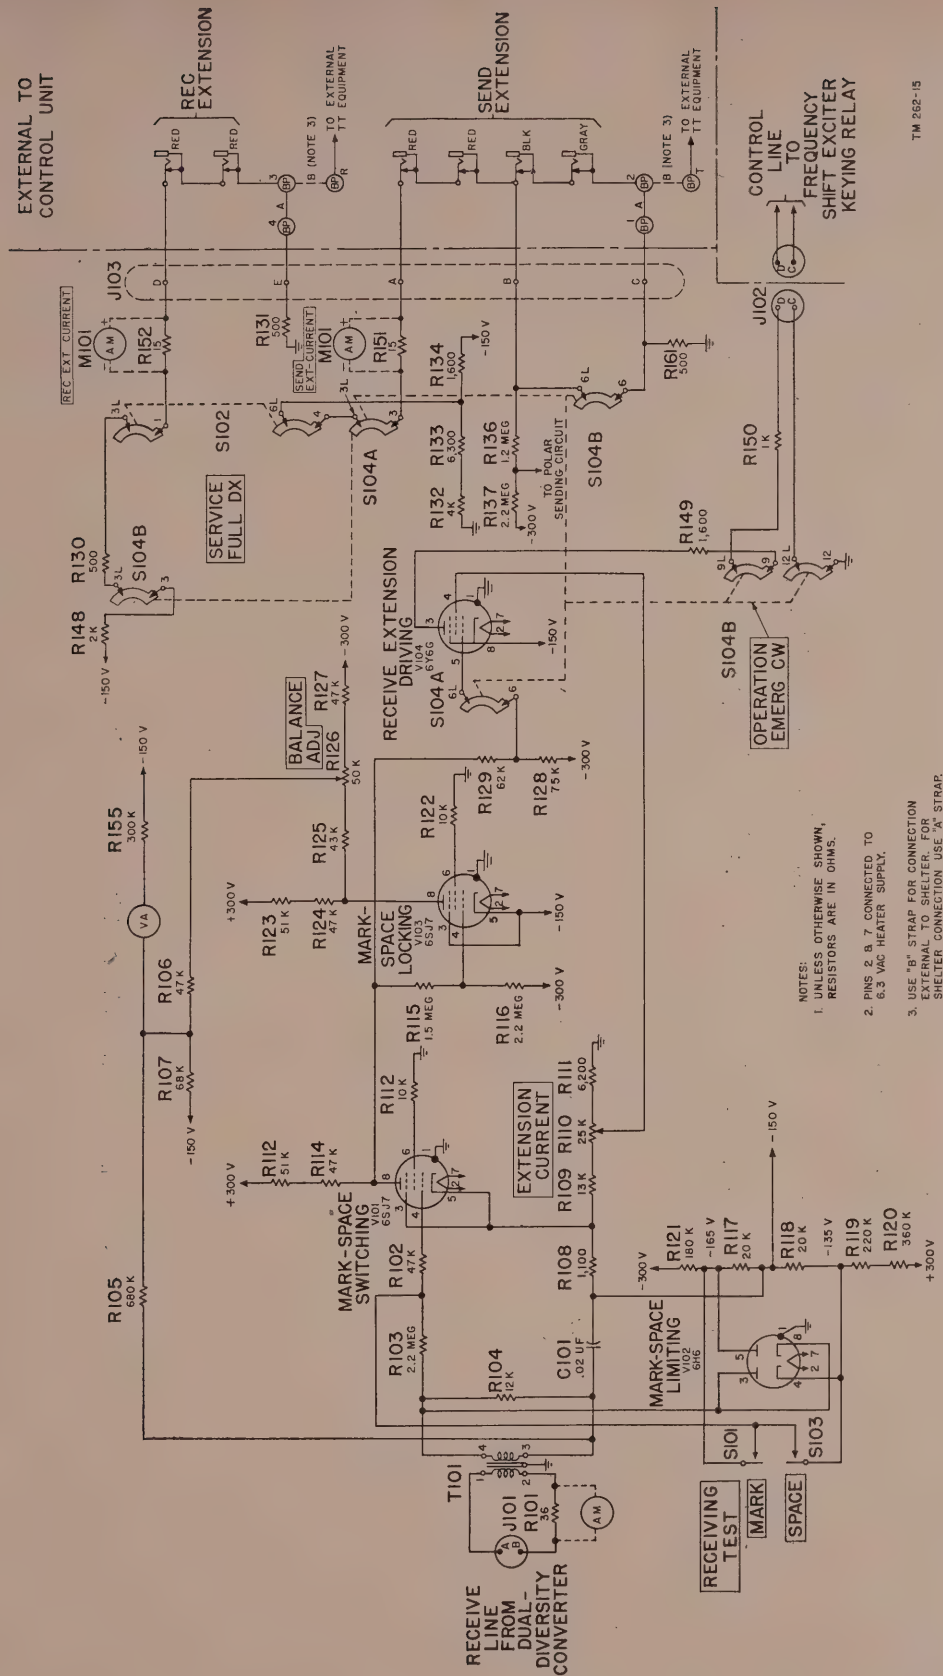
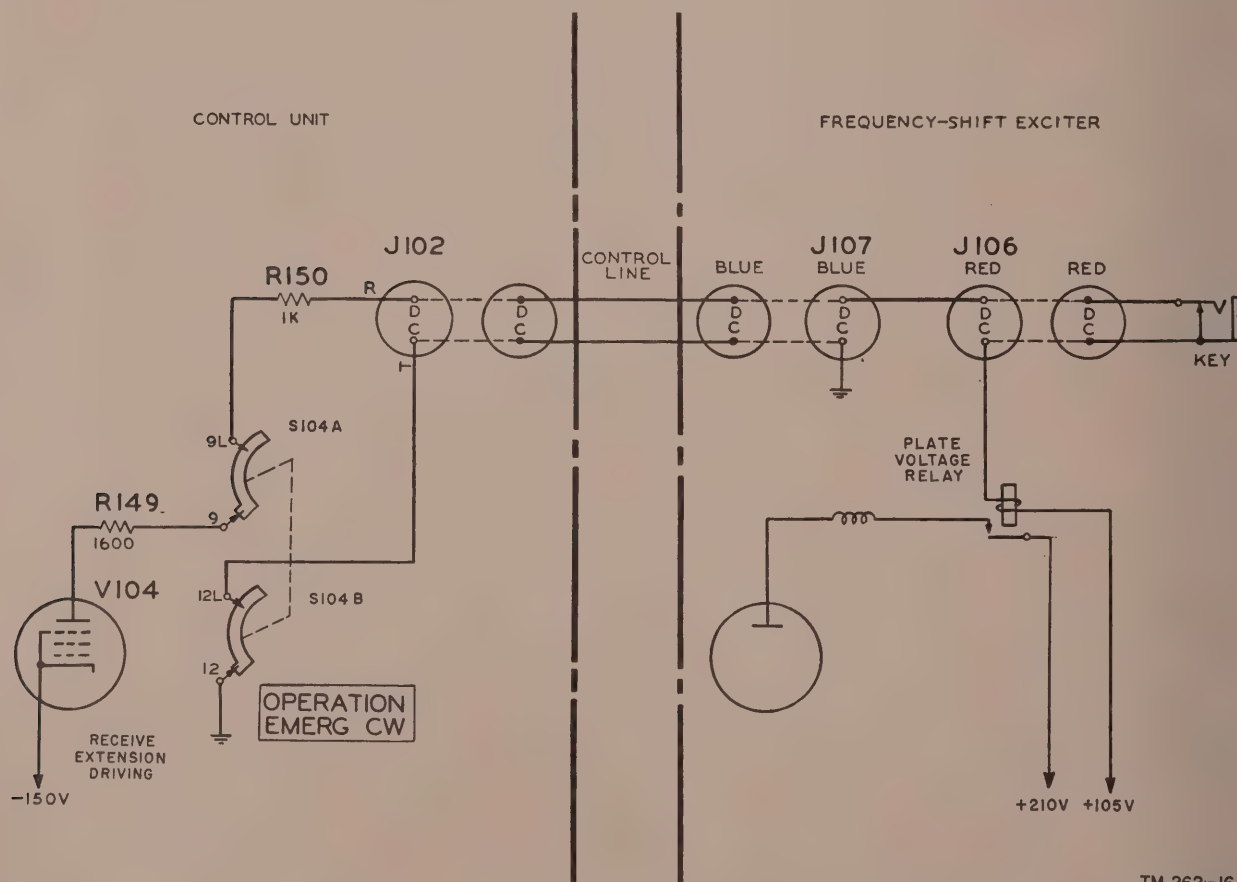

Figure 21. Control unit arranged for emergency c-w operation.
Figure 22. Keying control circuit for emergency operation.
35. Emergency C-W Keying (figs. 21 and 22)
a. In emergency c-w keying operation, the transmitter carrier is interrupted as in normal radio code transmissions. When OPERATION switch S104 on the control unit is turned to EMERG CW position, and the OUTPUT knob on the dual-diversity converter is turned to the SPACE position, the radio transmitter carrier may be keyed from the receiving shelter. These manual signals are transmitted by the dual-diversity converter as polar signals which operate the sending circuit of the control unit, as shown in figure 21. A simplified diagram of the keying control circuit between the control unit and frequency shift exciter is shown in figure 22. With OPERATION switch in EMERG CW position, the plate of receive extension driving tube is connected, through resistor R149, through section A of OPERATION switch S104, and through resistor R150, over the control leads to the FS